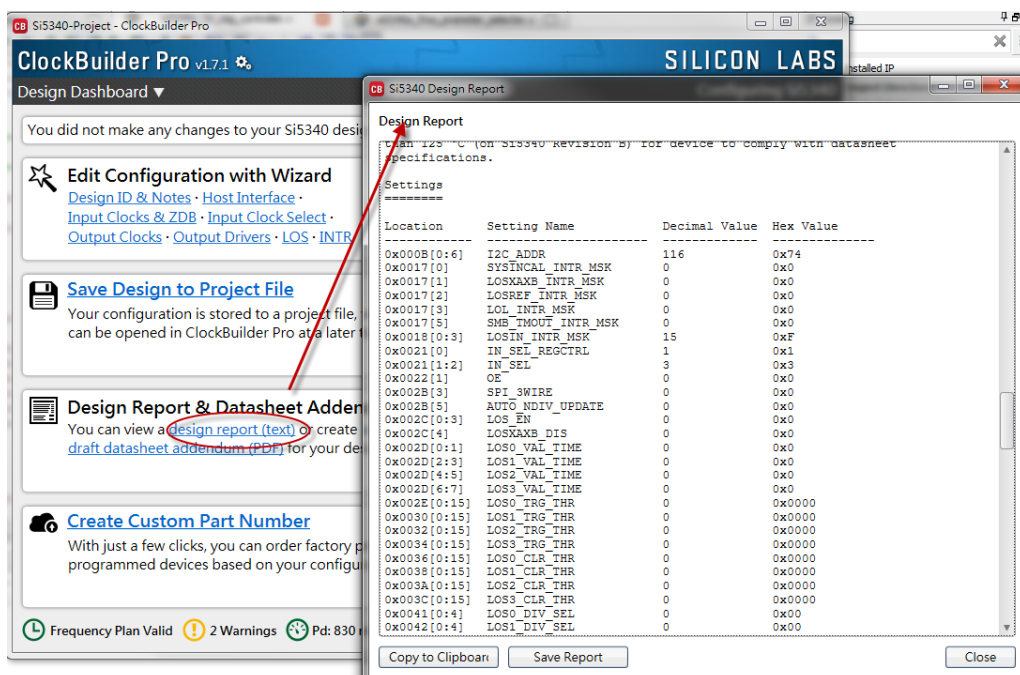

Figure 5-8 Open Design Report on ClockBuilder Pro Wizard
3. After the setting is completed, ClockBuilder Pro Wizard generates a Design Report(text), which contains users setting frequency corresponding register value (See **Figure 5-8**).